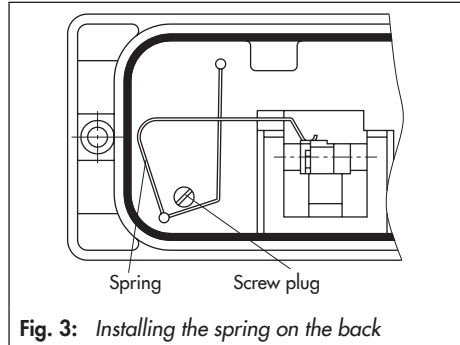

Fig. 3: Installing the spring on the back
To ensure that the pin (27a) is properly located in the bracket (28), fix the spring included in the accessories at the back of the positioner housing as illustrated in Fig. 3.